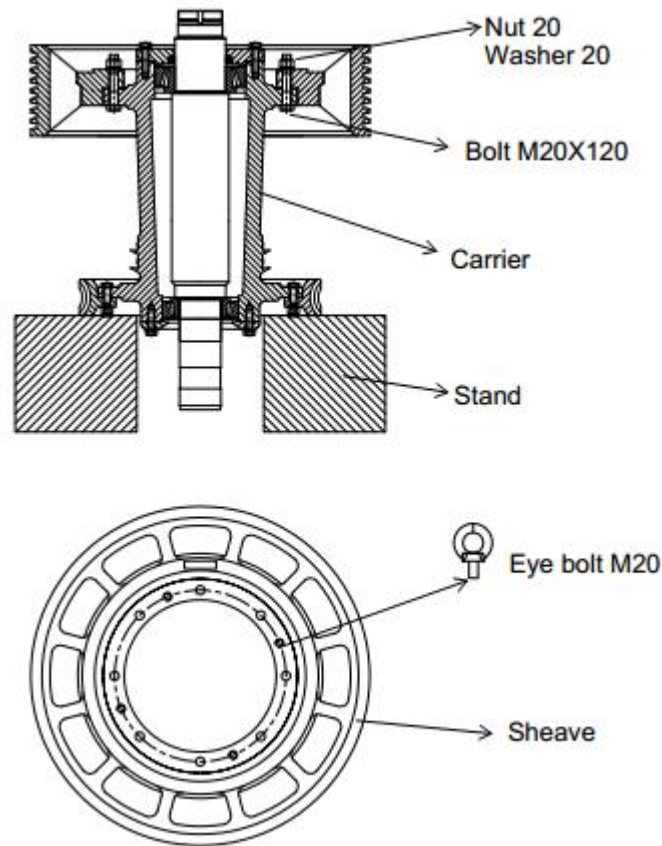

Figure 27 Hoist the sheave
11. Place two stands (approximately 100 x 230mm, 4" x 5.5") under the gear surface. See Figure 27.
12. Remove the eight bolts (M20x120), nuts (M20) and washers (20) with open end wrench (30mm).